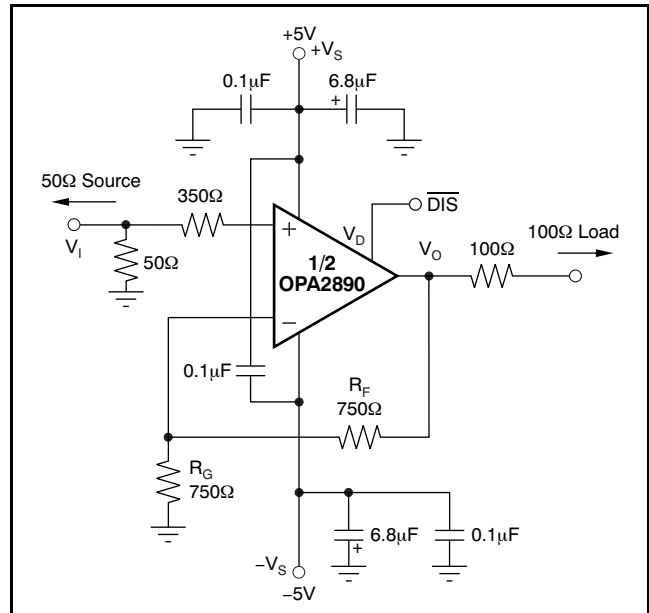
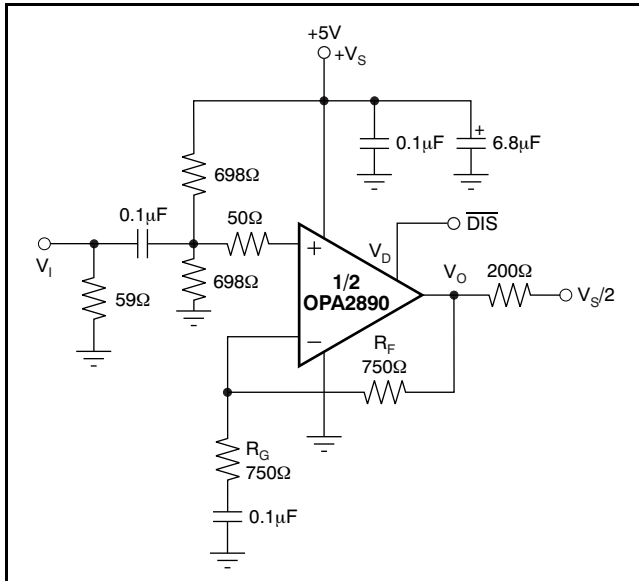
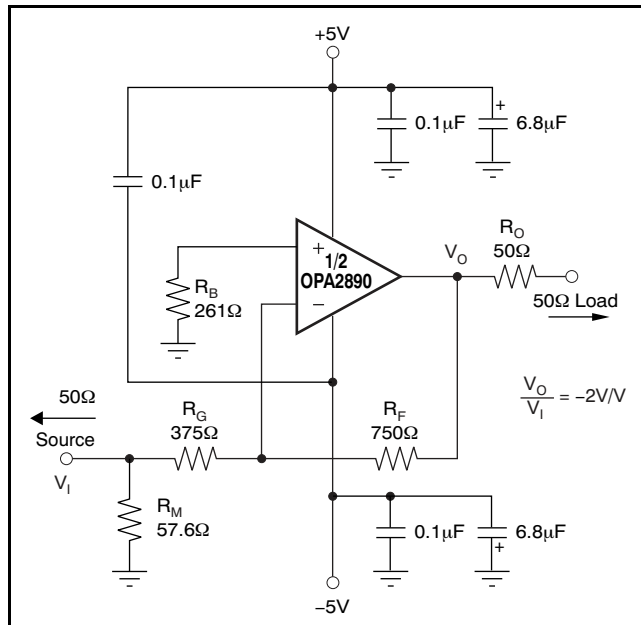

Figure 49. DC-Coupled, G = +2V/V, Bipolar Supply, Specification and Test Circuit
Figure 50. DC-Coupled, $G = +2V/V$, Single-Supply, Specification and Test Circuit
Figure 59. Gain of $-2V/V$ Example Circuit
At $T_A = +25^\circ C$, $G = +2V/V$, $R_F = 750\Omega$, and $R_L = 200\Omega$, unless otherwise noted. See Figure 49.
Figure 49 shows the DC-coupled, gain of +2V/V, dual power-supply circuit configuration used as the basis of the $\pm 5\text{V}$ Electrical Characteristics and Typical Characteristics. This illustration is for one channel; the other channel is connected similarly. For test purposes, the input impedance is set to 50 Ω with a resistor to ground and the output impedance is set to 200 Ω . Voltage swings reported in the Electrical Characteristics are taken directly at the input and output pins, while output powers (dBm) are at the matched 50 Ω load. For the circuit of Figure 49, the total effective load is 200 Ω || 1.5k Ω . The disable control line (MSOP-10 package only) is typically left open for normal amplifier operation. Two optional components are included in Figure 49. First, an additional resistor (350 Ω) is included in series with the noninverting input. Combined with the 25 Ω dc source resistance looking back towards the signal generator, this resistor gives an input bias current cancelling resistance that matches the 750 Ω source resistance seen at the inverting input (see the DC Accuracy and Offset Control section). In addition to the usual power-supply decoupling capacitors to ground, a 0.1 μF capacitor is also included between the two power-supply pins. In practical printed circuit board (PCB) layouts, this optional capacitor typically improves the 2nd-harmonic distortion performance by 3dB to 6dB.
Figure 50 illustrates the ac-coupled, gain of +2V/V, single-supply circuit configuration used as the basis of the +5V Electrical Characteristics and Typical Characteristics. Though not a rail-to-rail design, the OPA2890 requires minimal input and output voltage headroom compared to other very wideband voltage-feedback op amps. It delivers a 3V_{PP} output swing on a single +5V supply with greater than 80MHz bandwidth. The key requirement of broadband single-supply operation is to maintain input and output signal swings within the usable voltage ranges at both the input and the output. The circuit of Figure 50 establishes an input midpoint bias using a simple resistive divider from the +5V supply (two 698 Ω resistors). Separate bias networks would be required at each input. The input signal is then ac-coupled into the midpoint voltage bias. The input voltage can swing to within 1.5V of either supply pin, giving a 2V_{PP} input signal range centered between the supply pins. The input impedance matching resistor (59 Ω) used for testing is adjusted to give a 50 Ω input load when the parallel combination of the biasing divider network is included.
A good rule of thumb is to target the parallel combination of R_F and R_G (see Figure 49) to be less than approximately 400Ω. The combined impedance $R_F \parallel R_G$ interacts with the inverting input capacitance, placing an additional pole in the feedback network and thus, a zero in the forward response. Assuming a 2pF total parasitic on the inverting node, holding $R_F \parallel R_G < 400\Omega$ keeps this pole above 160MHz. By itself, this constraint implies that the feedback resistor R_F can increase to several kΩ at high gains. This increase in resistor size is acceptable as long as the pole formed by R_F and any parasitic capacitance appearing in parallel is kept out of the frequency range of interest.
Voltage-feedback op amps exhibit decreasing closed-loop bandwidth as the signal gain increases. In theory, this relationship is described by the Gain Bandwidth Product (GBP) shown in the Electrical Characteristics. Ideally, dividing GBP by the noninverting signal gain (also called the Noise Gain, or NG) predicts the closed-loop bandwidth. In practice, this principle only holds true when the phase margin approaches 90°, as it does in high gain configurations. At low gains (increased feedback factors), most amplifiers exhibit a more complex response with lower phase margin. The OPA2890 is compensated to give a slightly peaked response in a noninverting gain of 2V/V (see Figure 49). This compensation results in a typical gain of +2V/V bandwidth of 100MHz, far exceeding that predicted by dividing the 60MHz GBP by 2. Increasing the gain causes the phase margin to approach 90° and the
The frequency response in a gain of +2V/V may be modified to achieve exceptional flatness simply by increasing the noise gain to 2.5V/V. One way to modify the response without affecting the +2V/V signal gain, is to add an 1.5kΩ resistor across the two inputs, as illustrated in the circuit of Figure 49. A similar technique may be used to reduce peaking in unity-gain (voltage follower) applications. For example, by using a 750Ω feedback resistor along with a 750Ω resistor across the two op amp inputs, the voltage follower response is similar to the gain of +2V/V response of Figure 50. Reducing the value of the resistor across the op amp inputs further limits the frequency response due to increased noise gain.
The OPA2890 is a general-purpose, wideband, voltage-feedback op amp; therefore, all of the familiar op amp application circuits are available to the designer. Inverting operation is one of the more common requirements and offers several performance benefits. See Figure 59 for a typical inverting configuration where the I/O impedances and signal gain from Figure 49 are retained in an inverting circuit configuration.
The second major consideration, touched on in the previous paragraph, is that the signal source impedance becomes part of the noise gain equation and influences the bandwidth. For the example in Figure 59, the R_M value combined in parallel with the external 50Ω source impedance yields an effective driving impedance of $50\Omega \parallel 57.6\Omega = 26.7\Omega$. This impedance is added in series with R_G for calculating the noise gain (NG). The resultant NG is 2.86V/V for Figure 59, as opposed to only 2V/V if R_M could be eliminated as discussed above. Therefore, the bandwidth is slightly lower for the gain of $-2V/V$ circuit of Figure 59 than for the gain of $+2V/V$ circuit of Figure 49.
signal reaches very high frequency or power levels, the 2nd harmonic dominates the distortion with a negligible 3rd harmonic component. Focusing then on the 2nd harmonic, increasing the load impedance improves distortion directly. Remember that the total load includes the feedback network; in the noninverting configuration (see Figure 49), this value is the sum of $R_F + R_G$, while in the inverting configuration it is only R_F . Also, providing an additional supply-decoupling capacitor (0.1 μ F) between the supply pins (for bipolar operation) improves the 2nd-order distortion slightly (3dB to 6dB). Operating differentially also lowers 2nd-harmonic distortion terms (see the plot on the front page).
Evaluating these two equations for the OPA2890 circuit and component values (see Figure 49) gives a total output spot noise voltage of 17.5nV/ $\sqrt{\text{Hz}}$ and a total equivalent input spot noise voltage of 8.7nV/ $\sqrt{\text{Hz}}$. This result includes the noise added by the bias current cancellation resistor (350 Ω) on the noninverting input. This total input-referred spot noise voltage is only slightly higher than the 8nV/ $\sqrt{\text{Hz}}$ specification for the op amp voltage noise alone. This result is the case as long as the impedances appearing at each op amp input are limited to the previously recommended maximum value of 400 Ω . Keeping both ($R_F \parallel R_G$) and the noninverting input source impedance less than 400 Ω satisfies both noise and frequency response flatness considerations. Because the resistor-induced noise is relatively negligible, additional capacitive decoupling across the bias current cancellation resistor (R_B) for the inverting op amp configuration of Figure 59 is not required.
The balanced input stage of a wideband voltage-feedback op amp allows good output dc accuracy in a wide variety of applications. The power-supply current trim for the OPA2890 gives even tighter control than comparable amplifiers. Although the high-speed input stage does require relatively high input bias current (typically 5µA out of each input terminal), the close matching between them may be used to reduce the output dc error caused by this current. The total output offset voltage may be considerably reduced by matching the dc source resistances appearing at the two inputs. This matching reduces the output dc error resulting from the input bias currents to the offset current times the feedback resistor. Evaluating the configuration of Figure 49, and using worst-case +25°C input offset voltage and current specifications, gives a worst-case output offset voltage equal to: